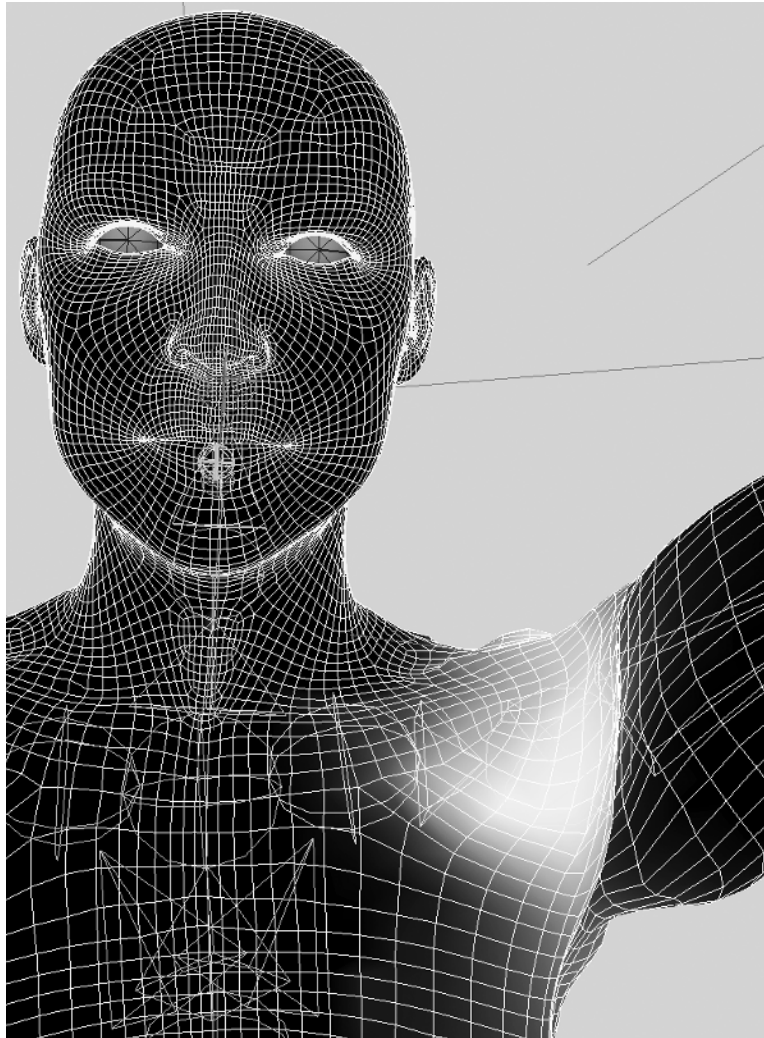

Figure 1.33
7. After evaluating the shoulder again with its new orient constraint, it becomes evident that there are weighting issues compounding the problem. You can see in Figure 1.33 that clavicleLft_JNT is too strong of an influence.